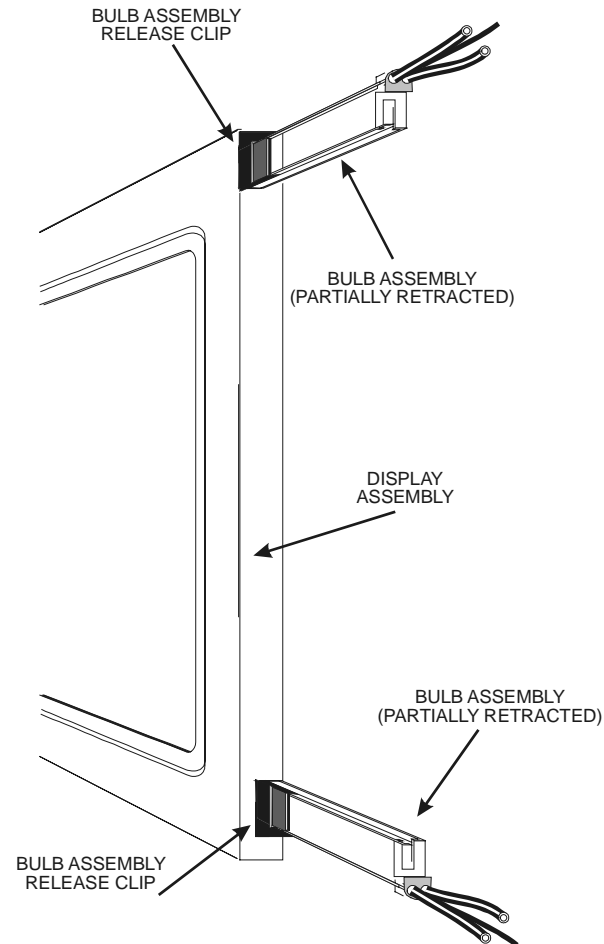

Figure D- 1. Model #AA104VB02 Bulb Assembly
11. Referring to Figure D-1 insert a flat-bladed screwdriver between the bulb and the clip to release the bulb.